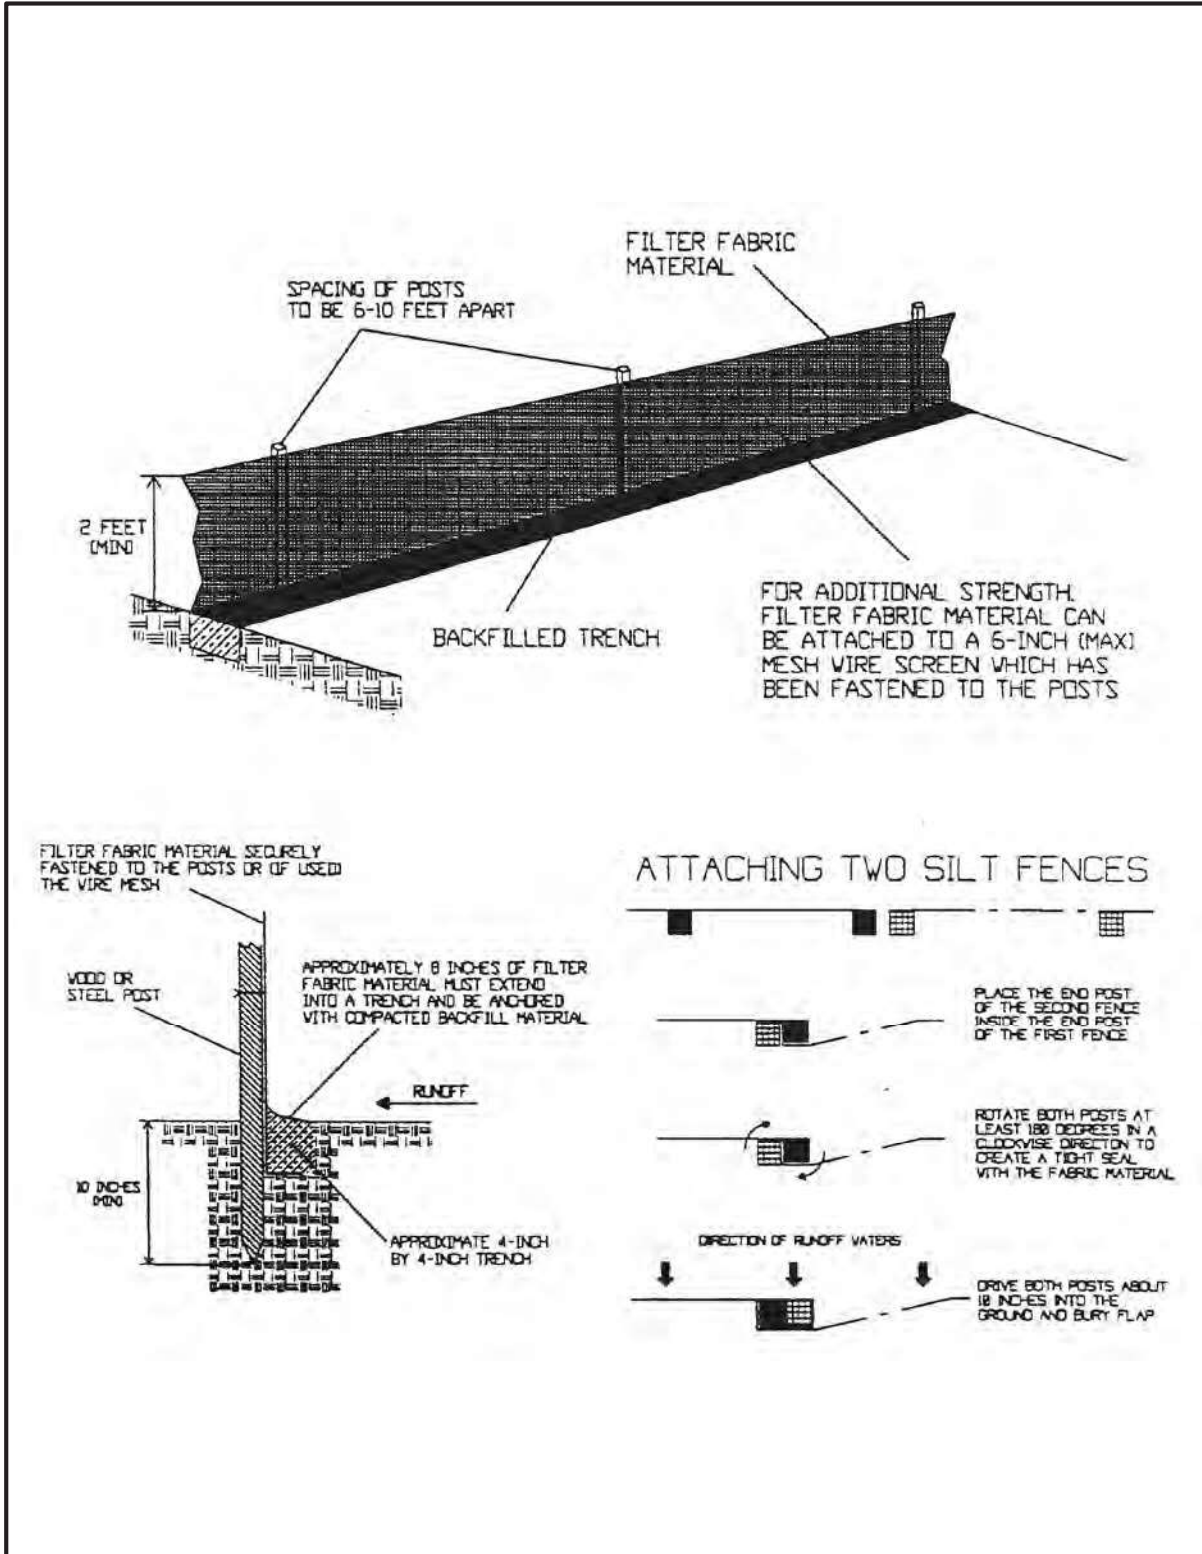

Figure 3.4b. Installing a filter fabric silt fence
8. *When attaching 2 silt fences together, place the end post of the second fence inside the end post of the first fence. Rotate both posts at least 180 degrees in a clockwise direction to create a tight seal with the filter fabric. Drive both posts into the ground and bury the flap (see **Figure 3.4b**).*